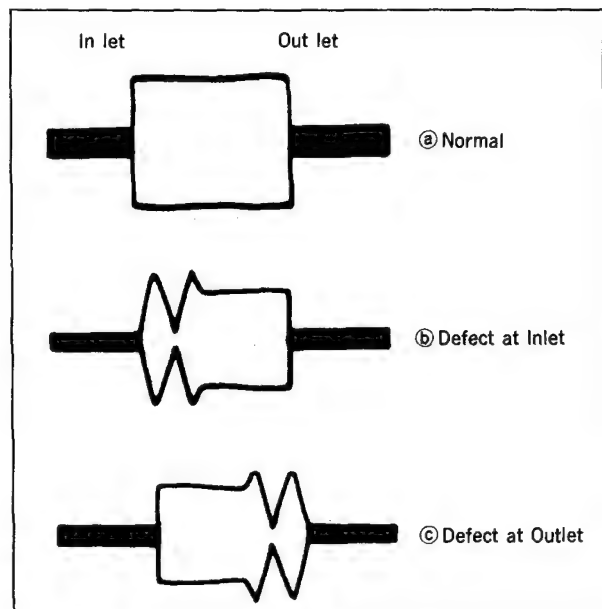

Fig. 36
- 5) Check that a RF waveform is flat at the inlet and outlet of the oscilloscope (Fig. 36 ㉔).
When the RF waveform is not flat at the inlet/outlet ; See Fig. 36 ㉕ and ㉖.